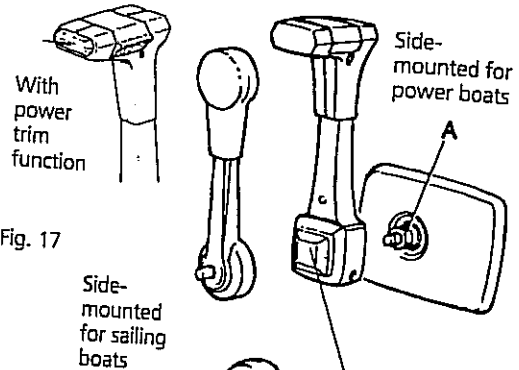

Fig. 17
- Grease the shaft splines(A fig. 17) sparingly and install the lever.
- Move the lever to engaged gear position. Push the neutral position button ( B fig. 17 & 18) firmly in place.